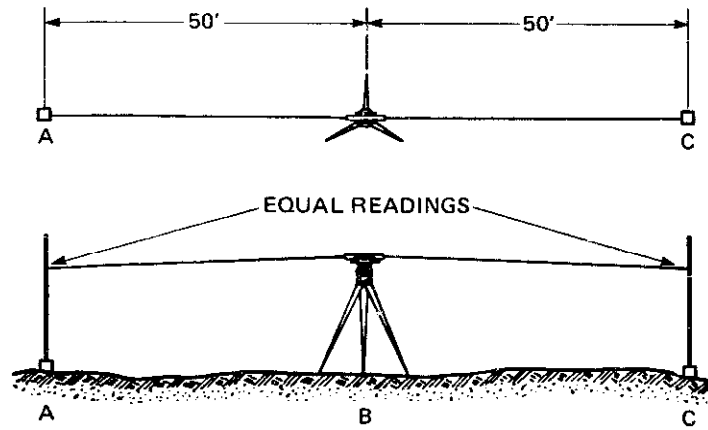
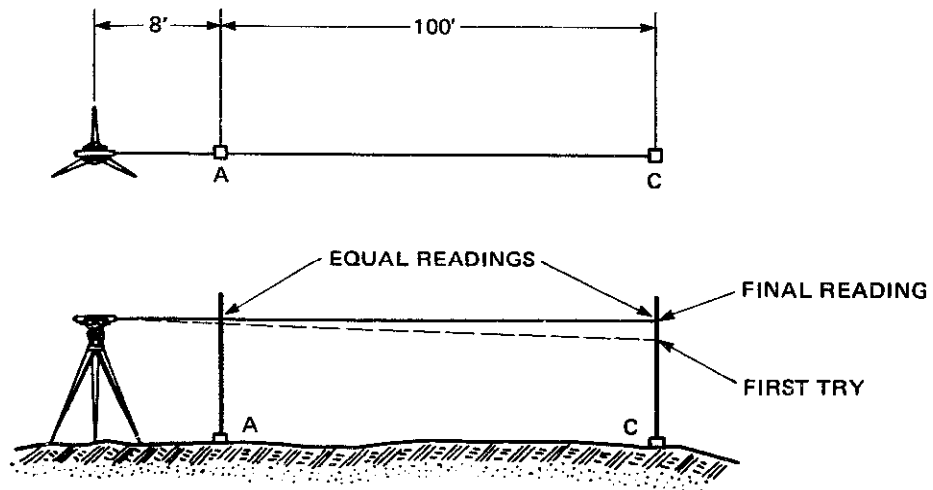

Fig. 5-47 Setting the stakes for cross line reading.
Fig. 5-48 Finding proper readings for adjusting cross lines.
- a. Select a 100-foot stretch of level, firm, shaded ground. Set three stakes, A, B, and C, in line, the distances A to B and B to C each measuring exactly 50 feet. See figure 5-47.
- (1) The telescope bubble is exactly centered.
- (2) The eyepiece and the telescope are precisely focused.
- (3) The rod is held exactly vertical.
- h. Set up the instrument on line and about 8 feet behind stake A, as shown in figure 5-48.
- i. Level carefully and take a reading on stakes A and C (figure 5-48). As before, make sure the level is exactly centered each time, just before the reading is taken. The readings on the two stakes should be the same.